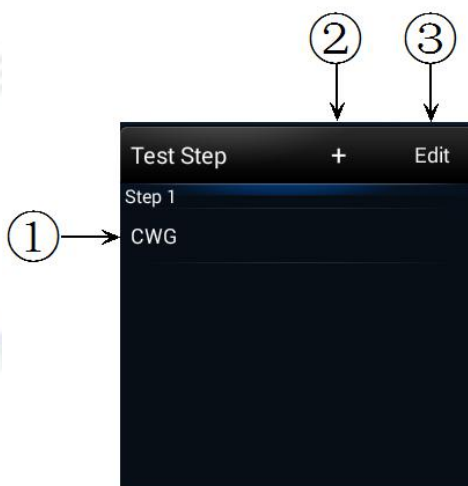
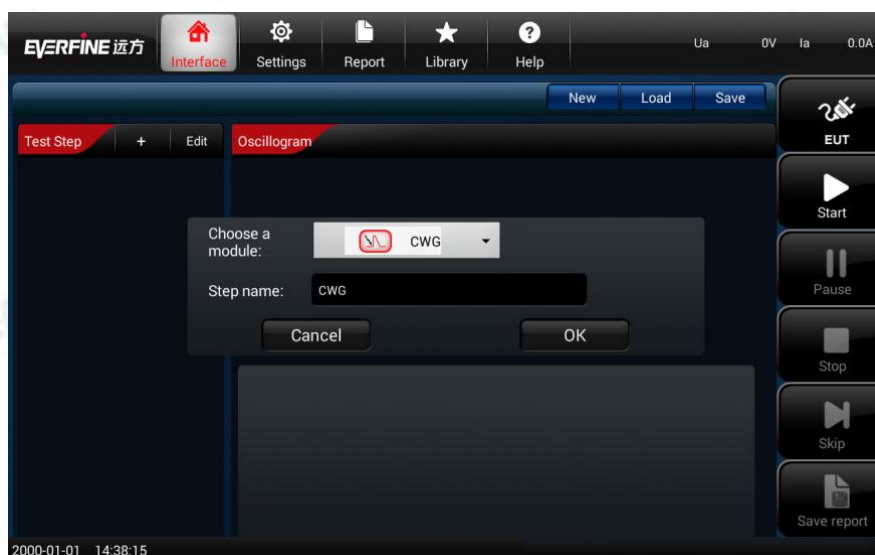

Fig 4.16 Test the step setup area
Fig 4.17 Add button selection interface
The test step setup area is shown in Fig 4.16.
Click the add button in Fig. 4.16 ②, as shown in Fig. 4.17.
Click "edit" in Fig4.16, and the test step area becomes as shown in Fig 4.19 below. Click  to delete the current test step, Click  to copy the current test step to the new test step, Click   to adjust the order of the test steps.